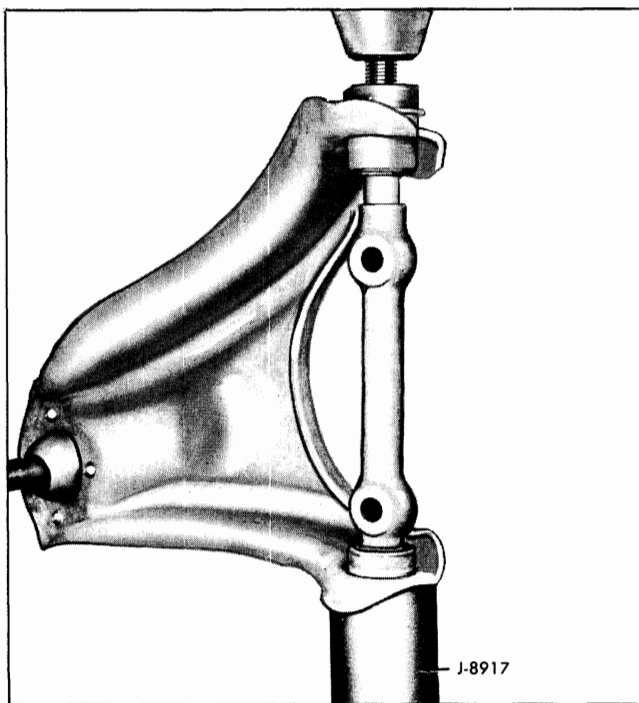

Fig. 3-20 Remove Bushings
5. Remove shaft from control arm by removing bushings with J-8917 support and arbor as shown in Fig. 3-20.